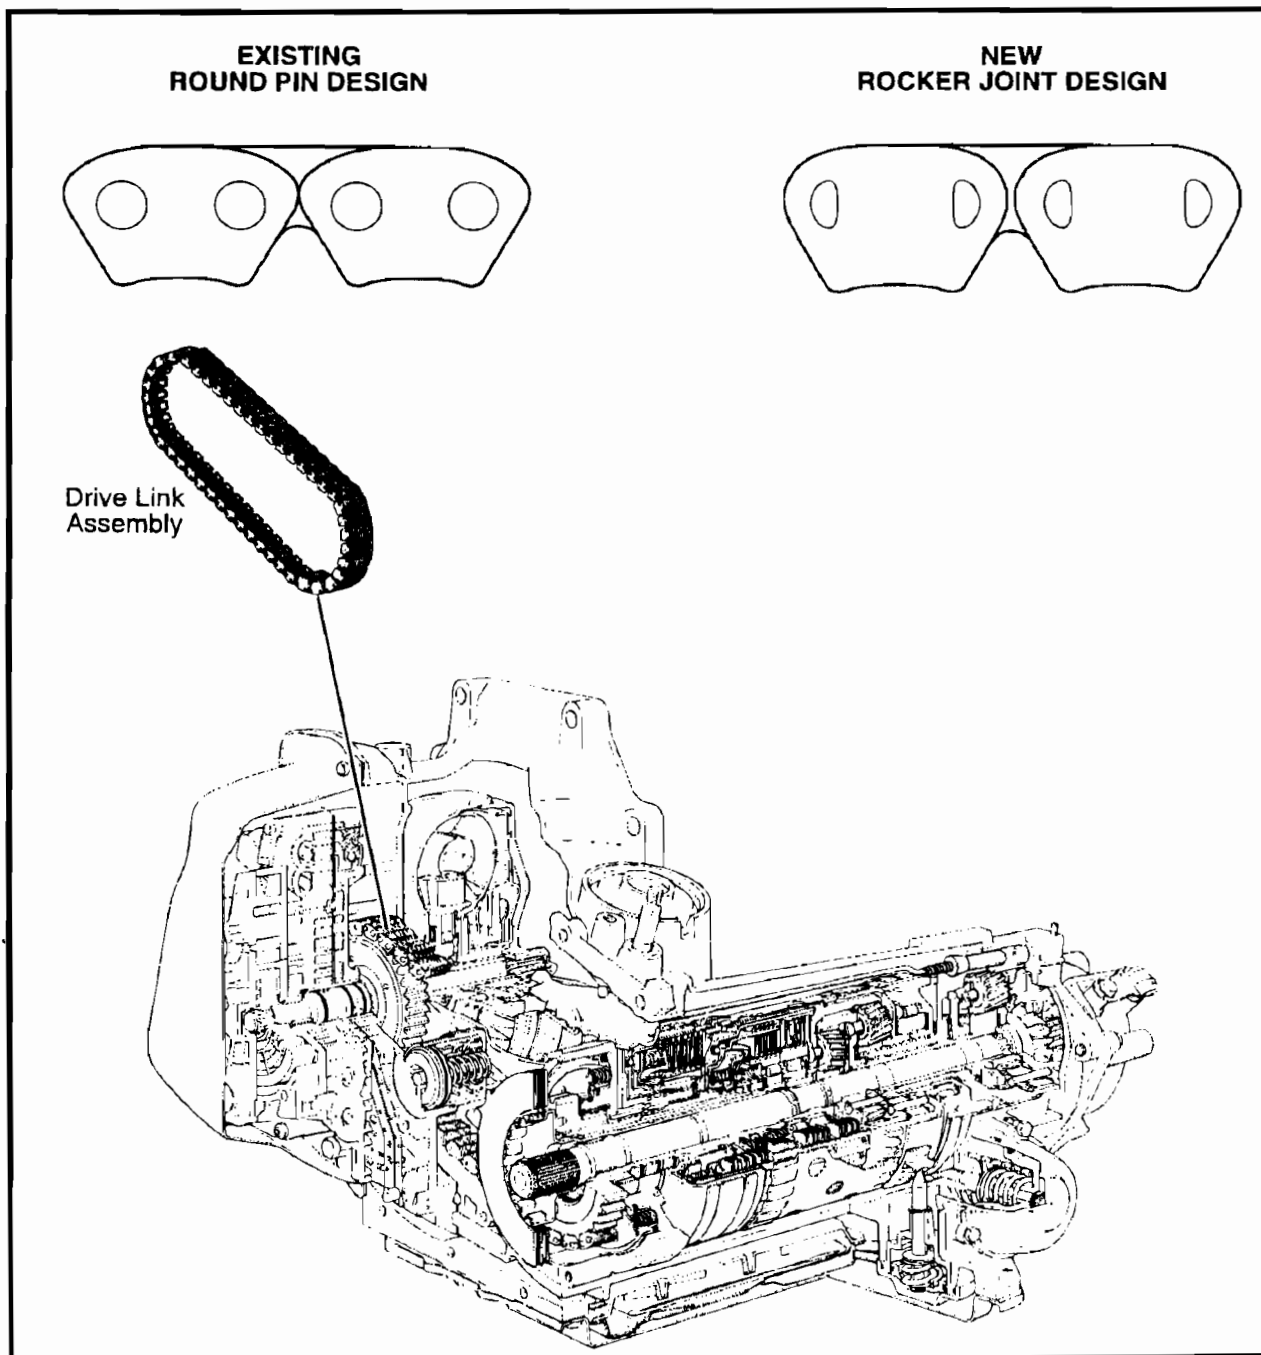

Figure 50
- (1) DRIVE CHAIN ASSEMBLY - New "Rocker-Joint" Drive Chain is easily identified by the link pins that are flat on one side. The existing drive chain link pins are round, as shown in Figure 50. Another identification is the color of the master link. The "Rocker-Joint" design are supposed to be copper in color, BUT, we have seen some of them with black links which is the identification for the existing chain.